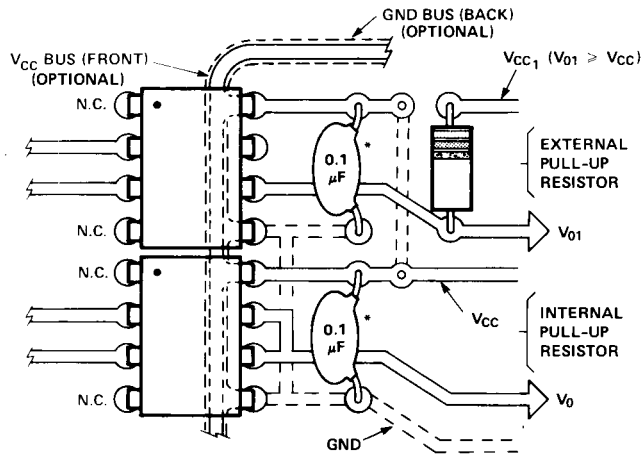

Figure 19. Recommended Printed Circuit Board Layout.
- By passing the power supply line is required with a $0.1 \mu\text{F}$ ceramic disc capacitor adjacent to each optocoupler as illustrated in Figure 19. The power supply bus for the optocoupler(s) should be separate from the bus for any active loads, otherwise a larger value of bypass capacitor (up to $0.5 \mu\text{F}$) may be needed to suppress regenerative feedback via the power supply.
or an external pull-up resistor and required V_{CC} bypass capacitor is given in Figure 19. V_{CC1} is used with an external pull-up resistor for output voltage levels (V_O) greater than or equal to 5 V. As illustrated in Figure 19, an